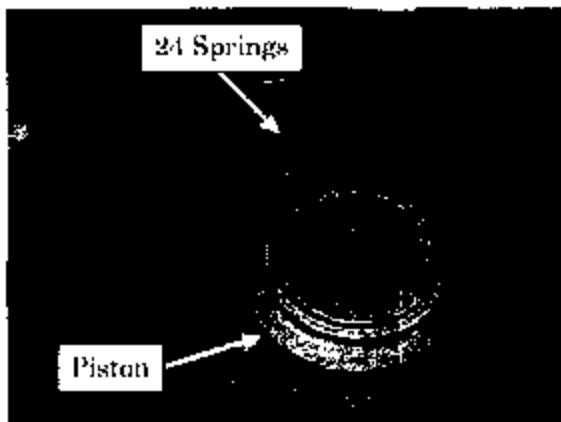

Figure 21
40. Place the springs (24) on the piston. Replace damaged springs as needed (8-08958-719-0 spring) (see figure 21).